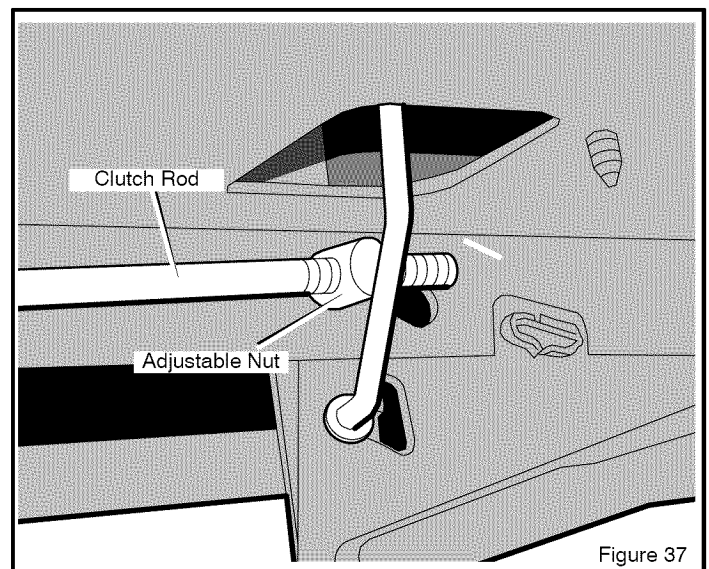

Figure 37
1. Remove the **hair pin** and **washer** from the **adjustable nut** (Figure 37).